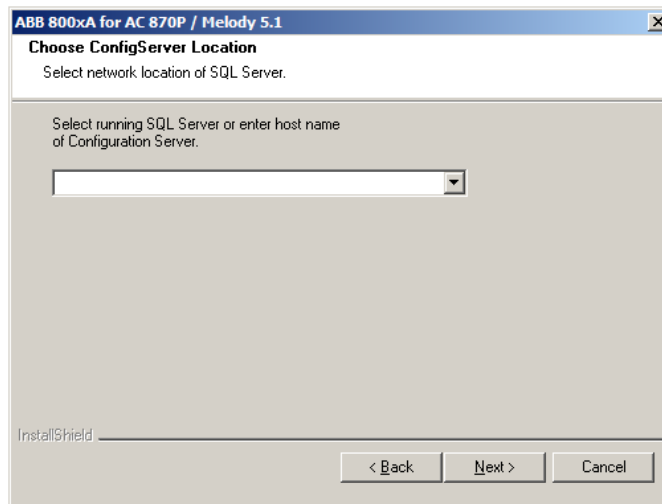

Figure 37. Selecting Configuration Server as SQL Server Location
3. Choose the **ConfigServer** location as shown in Figure 37, and click **Next**.